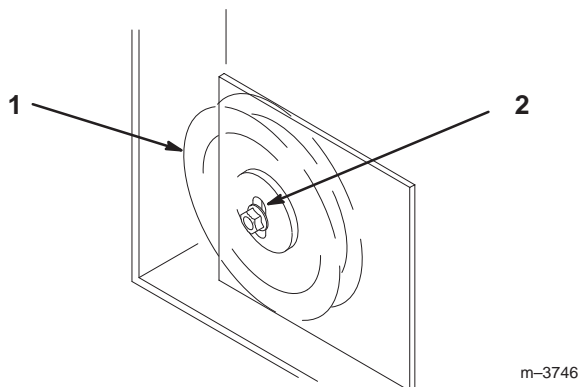

Figure 65
9. If adjustment is required, loosen the fixed idler on right support plate and move up or down in adjustment slot (Fig. 65). To relieve belt tension lift up on spring loaded idler.